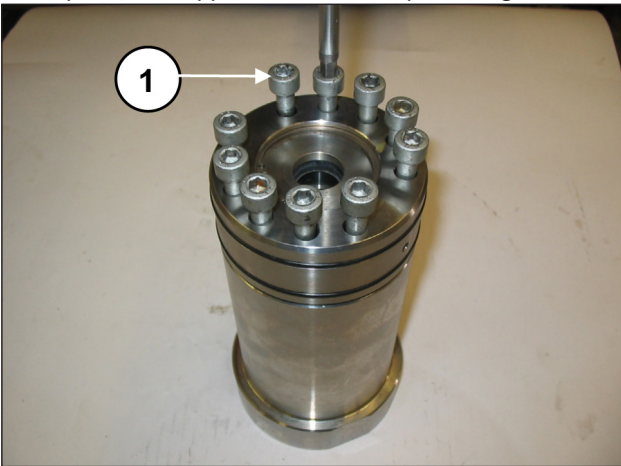
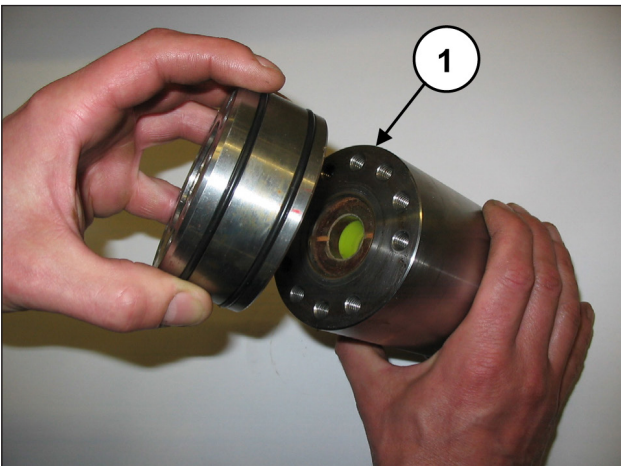

Fig. 124
Fig. 125
Remove the M8x50 head liner fixing screws (pos. ①, Fig. 124) and separate the support from the liner (pos. ①, Fig. 125).